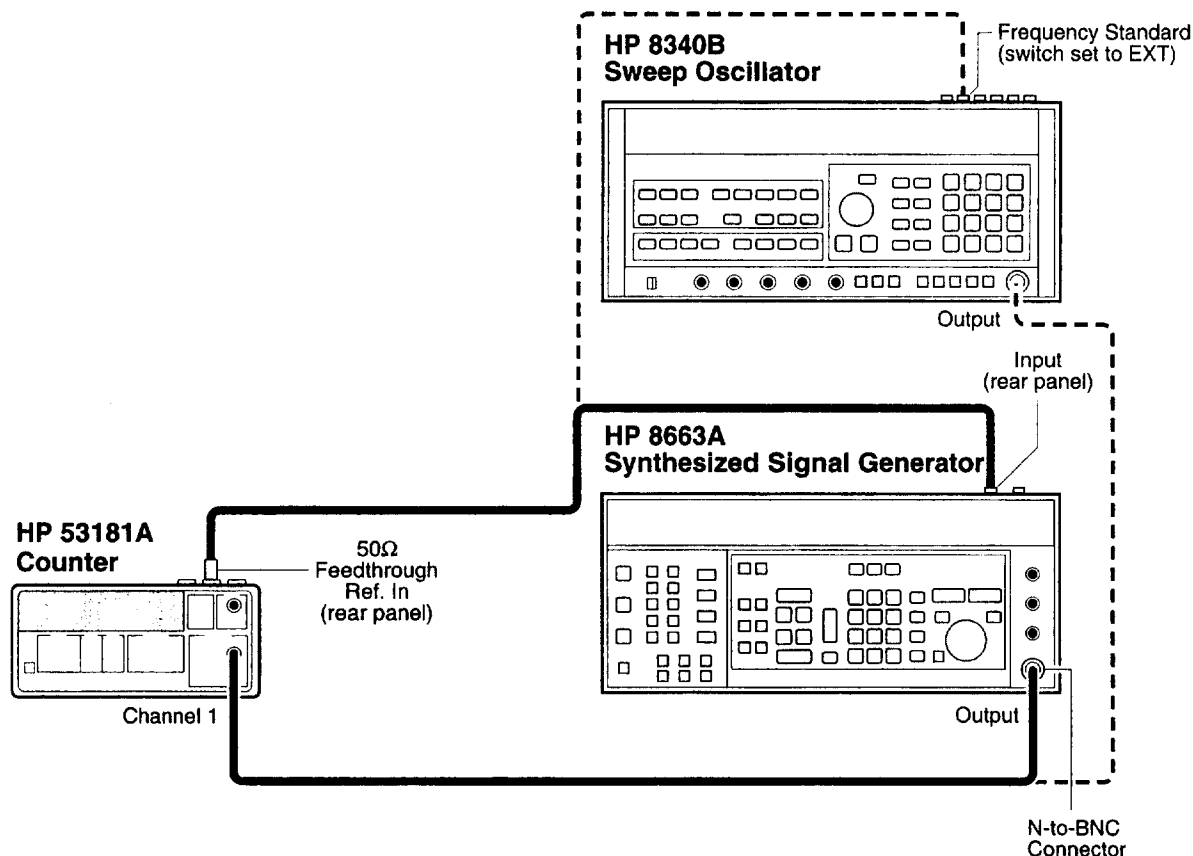

Figure 1-13. Channels 1 Frequency Accuracy Test Setup
- 1 **Connect the equipment as shown in Figure 1-13 with the signal generator connected to Channel 1 of the Counter.**